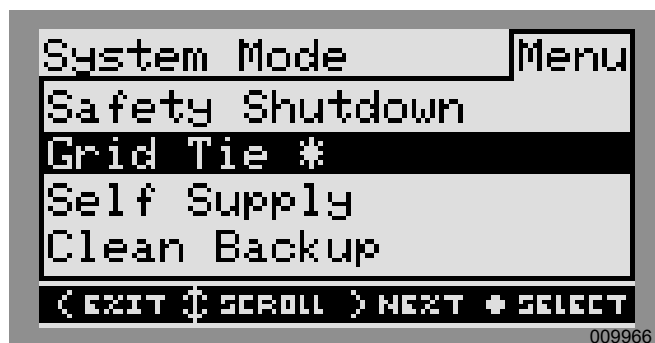

Figure 3-4. Selecting Operational Modes (2 of 4)
2. See **Figure 3-4**. A list of operational modes will be displayed with the current mode marked with an asterisk.
NOTE: The list of modes may not include all those shown in **Figure 3-4**.